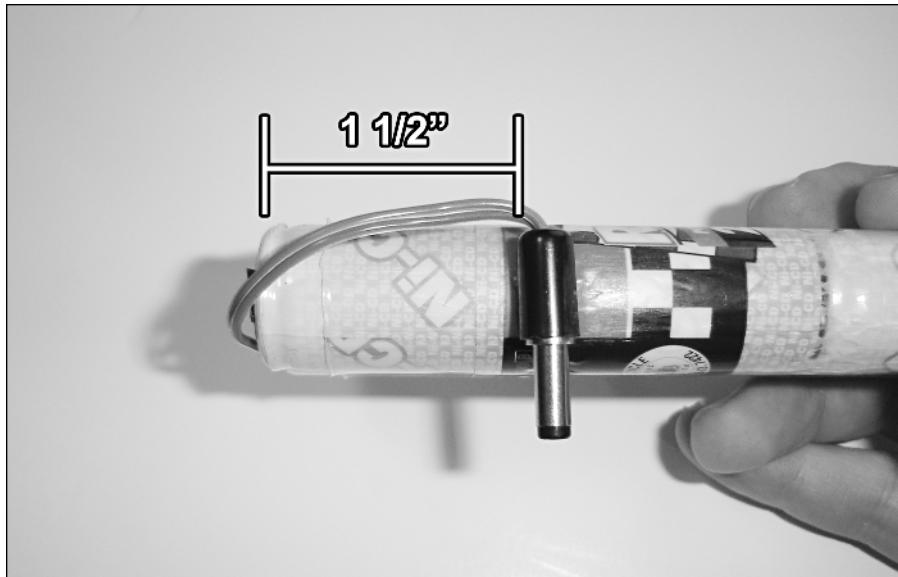

FIGURE 8-40: The power plug attached to the battery.
3. Make a mark 1.5" from the edge of the battery on the terminal side. Place the power plug at the edge of this mark, and vertically center the black cap portion on the battery, as shown in Figure 8-40. The idea is for the battery to plug into the back of the game unit—since that's already built, test it to see if you've got the plug in the right place. Use a multimeter to check if power is getting to the leads on the back of the coaxial jack inside the case. (Make sure the power switch is off before doing this.)
4. To attach the plug to the battery, first use a bit of superglue. Hold the plug straight and firm against the battery until the glue is dry, and then put some quick 5-minute epoxy around it. Try to keep glue off the top and bottom of the batteries, because it could create lumps, which can cause the battery holder not to fit. Finally, it's best to snake the wires around the sides of the battery, rather than the top (as shown in Figure 8-40).